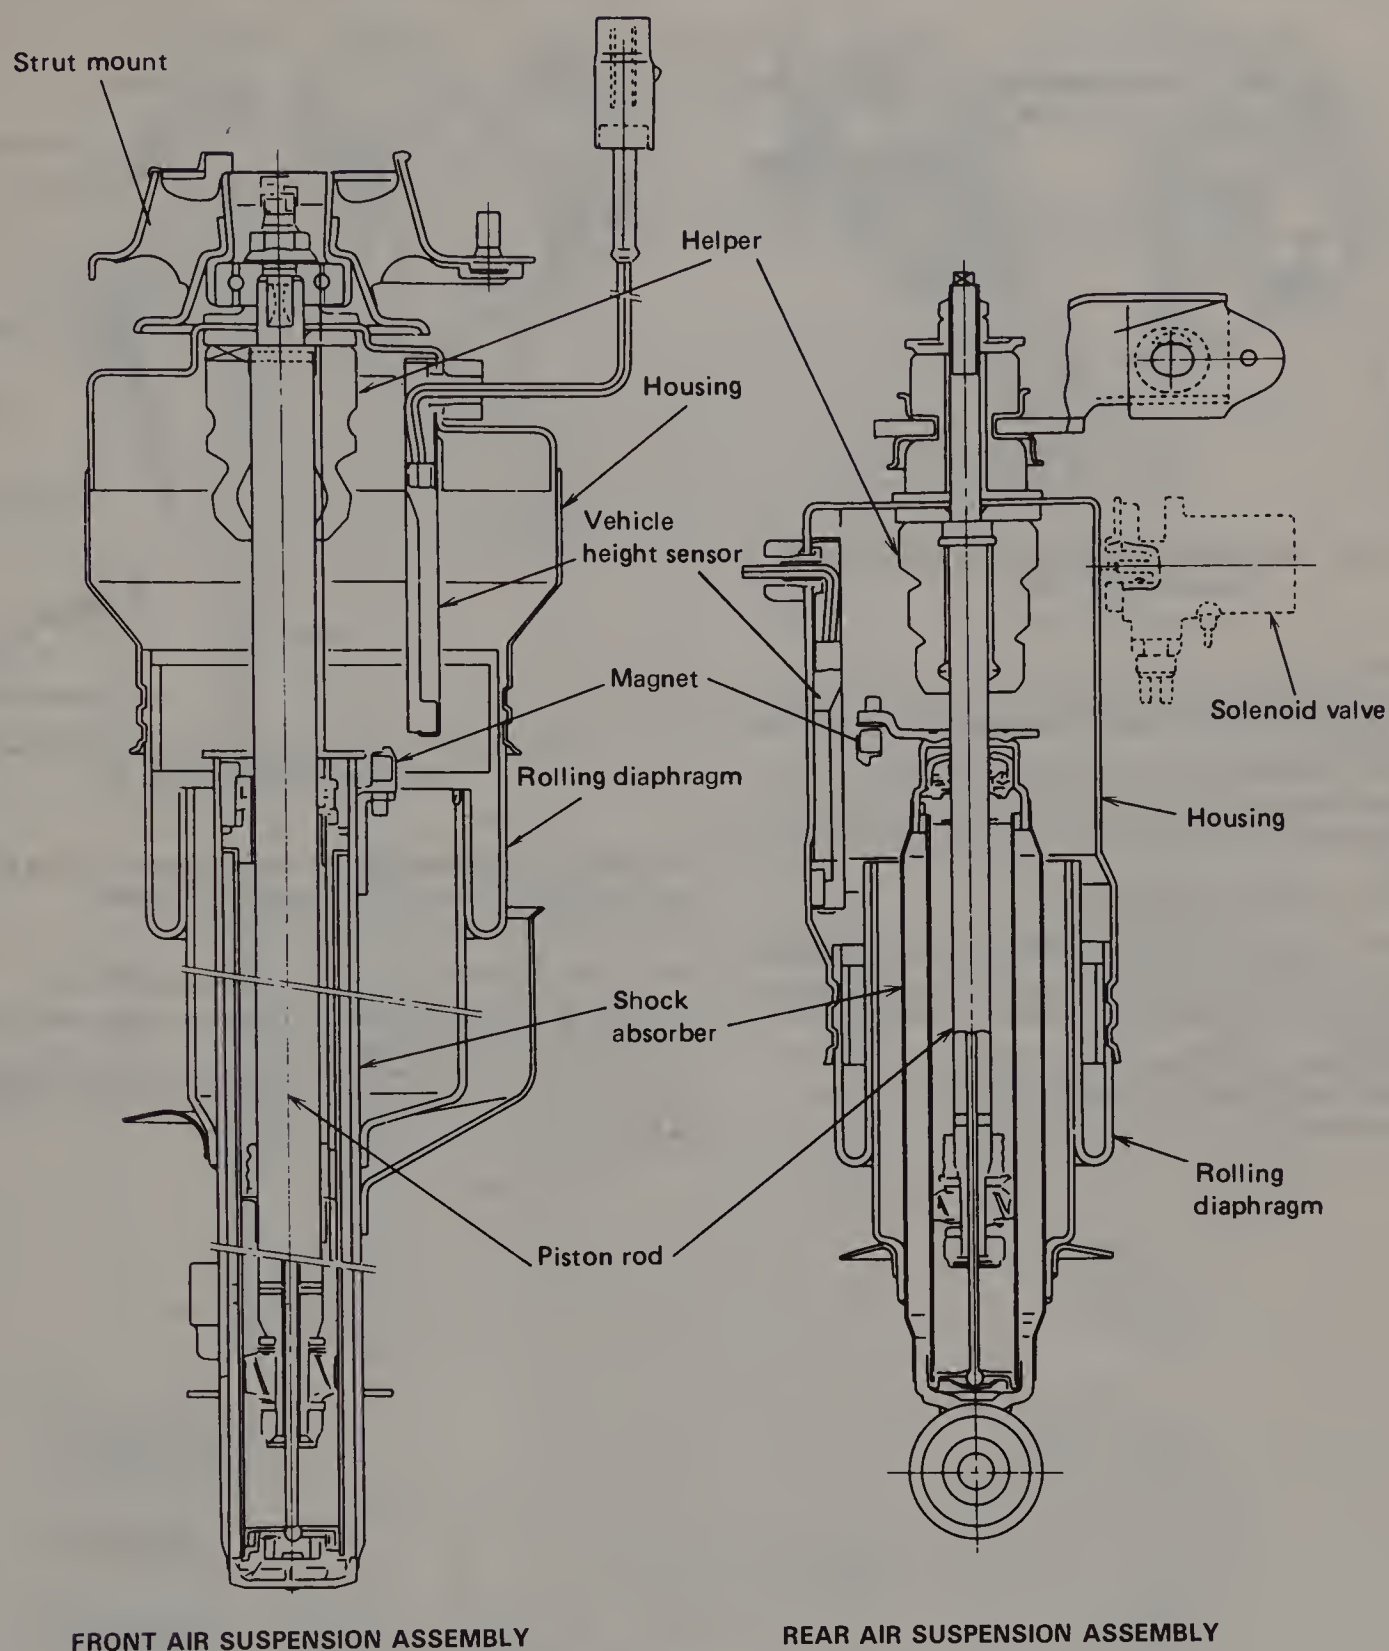

Fig. 13.59 Air suspension system components (Sec 7)
- 3 Do not apply an undercoating for local rust prevention to the air bags (rolling diaphragm surface and cylinder surface with which the diaphragm is in rolling contact) or the air compressor. This is because when the damper oil temperature increases, the generated heat melts the undercoating, which may trap dust, dirt and sand resulting in a damaged diaphragm. Undercoating on the air inlet of the compressor can also block the vent (Fig. 13.59).